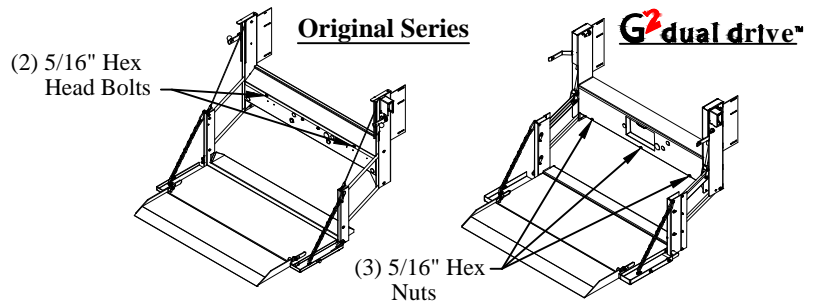

Figure 13: Box cover locations.
5. **Remove** the box cover by removing the 5/16" hex head bolts or nuts (Figure 13).